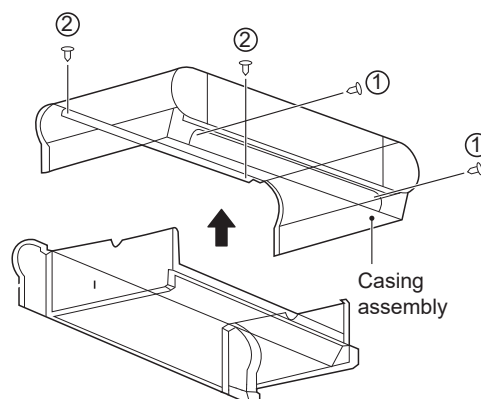

Figure 5-17 Removal of casing
As shown in Figure 5-17, remove screws ①*2 and ②*2 and then the casing.